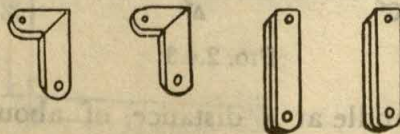

FIG. 2.4.10
10. Take two mild-steel strips $1\frac{1}{2}$ cm wide and 8 cm long and drill holes on one end of these allowing a margin of at least $\frac{1}{2}$ cm from the edge. Bend the strips at right angles at a distance of 1.5 cm from the edge. Bend the other end of either strip to form a ring of suitable size to clamp and hold the element. Fig. 2.4.10 and 2.4.11.